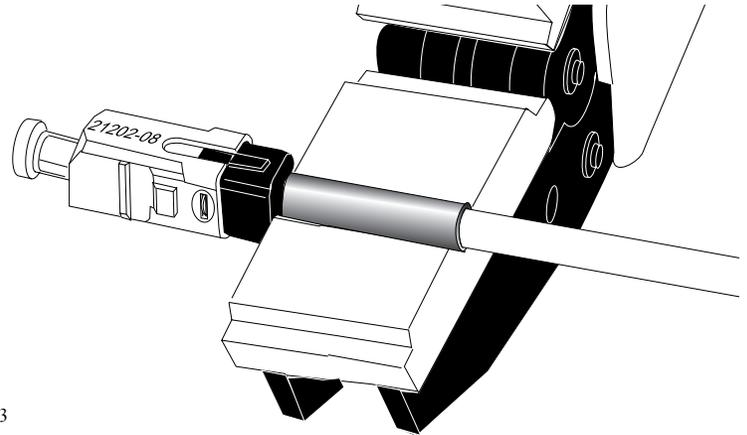

Figure 5-53
**5.8-12** Place the connector crimp ring into the opening of the crimp tool jaws (Figure 5-53).